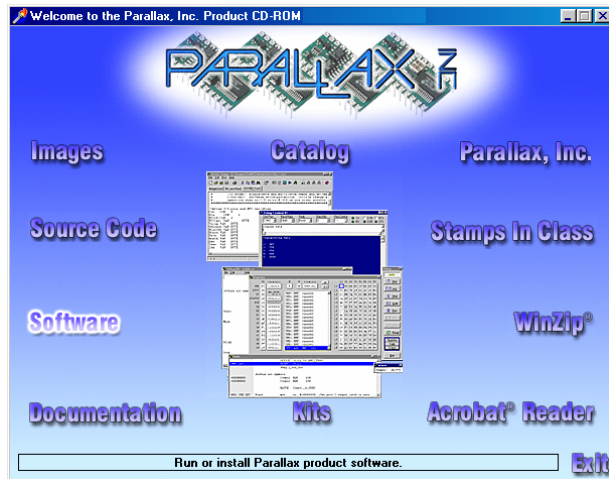

Figure 1-14
- √ Place the Parallax CD into your computer's CD drive. The Parallax CD Welcome application shown in Figure 1-14 should run as soon as you load the CD into your computer's CD drive.
- √ Click the *Software* link shown in Figure 1-14.